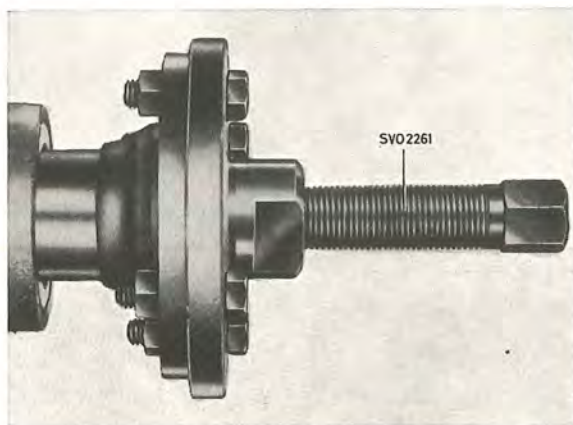

Fig. 4-14. Removing the flange
2. Release the nut for the flange. Pull off the flange with puller SVO 2261, see Fig. 4-14.
3. Slacken the nut for the flange. Use for this tool SVO 2837. Pull the flange off with puller SVO 2261, see Fig. 4-14.